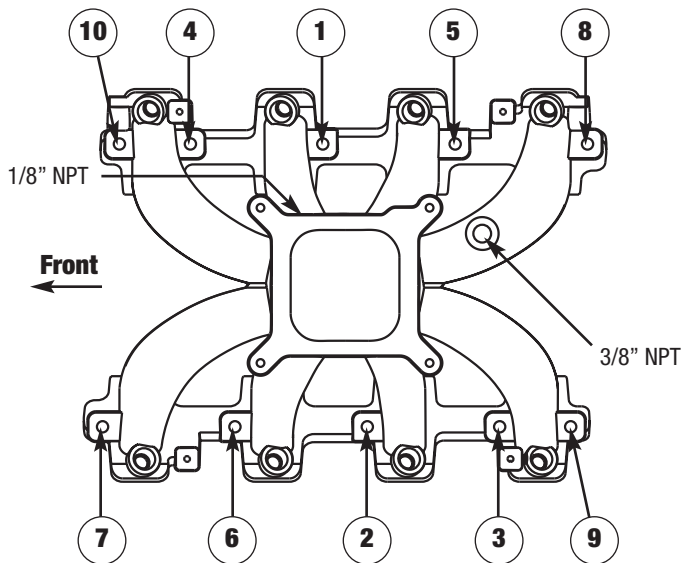

Figure 1 - Intake Manifold Tightening Sequence
1. (**Note:** Manifold #29085 must use O-Ring type gaskets (GM P/N 12533587) when installing this intake manifold. Manifold #28095 uses a conventional style gasket, Fel-Pro #1312-3). Gasket sealer is not required when using OEM type gaskets. Using the supplied 6mm x 50mm hex head bolts and 1/4" AN washers, mount the manifold to the engine. The Gen III throttle bracket mounts under the two left side rear intake manifold bolts. Following the torque sequence in **Figure 1**, torque all manifold bolts to 11 ft/lbs.